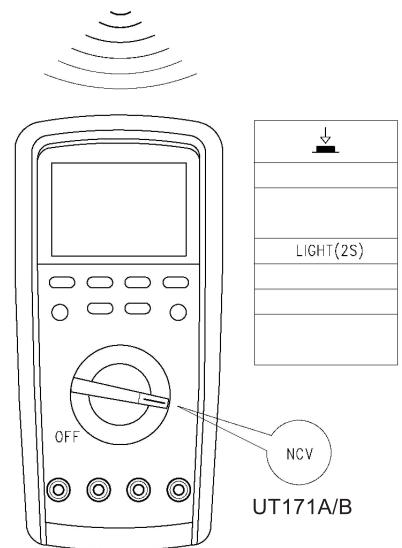

Figure 12
**10. Non-contact AC voltage sensing (see Figure 12)**